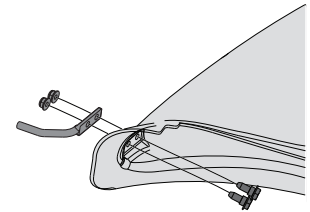

Figure 17
- From the inside of the boot, put two hex head shoulder screws (738-1225) through the holes at the bottom front of the boot. See Figure 17.
- Put the mounting rod (747-06043) in place over the hex head shoulder screws. Make sure the tip of the rod is facing out from the boot. See Figure 17.
- Begin threading the hex nuts (712-04064) onto the hex head shoulder screws. See Figure 17.